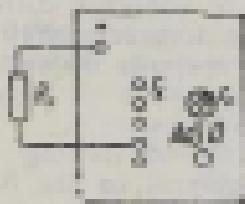

Fig. 4
1. Set the function switch to the position marked " $\times \infty$ " (Fig. 4).